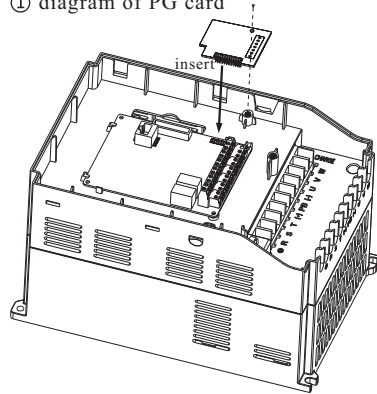
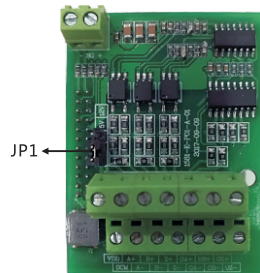

Figure 1 Install of PG extension card
Figure 2 PG card
- ①: make sure the AC drive is power off completely.
- ②: insert PG card and extension card of inverter.
- ③: fix by screw as Figure 1
- 2) The appearance, terminal block and function description are shown in figure 1, figure 2 and table 1.
- ① diagram of PG card